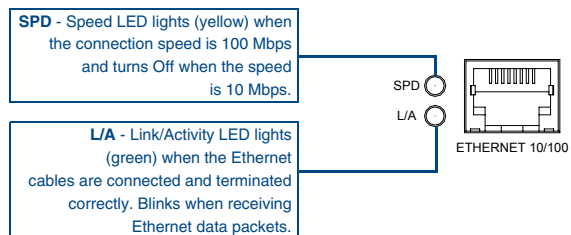

FIG. 2 Layout of Ethernet LEDs
Rear Panel Connectors:	<ul style="list-style-type: none"> <li>COMPOSITE OUT: Composite Video Output (NTSC or PAL) via a female BNC connector.</li> <li>12VDC PWR: Single 2-pin 3.5mm mini-Phoenix (male) captive-wire connector from an optional 12 VDC power supply (overrides POE).</li> <li>S-VIDEO OUT: Mini-Din4 port for composite S-Video output.</li> <li>ETHERNET 10/100: Single RJ-45 port provides 10/100 Mbps network communication and POE. LEDs show communication activity, connections, speeds, and mode information (FIG. 2).</li> <li>AUDIO R/L: Two RCA connectors (Red and White) support line-level stereo output for analog stereo signals.</li> <li>IR/Serial: Single 2-pin 3.5mm mini-Phoenix (male) captive-wire connector is used for IR/Serial control output by generating IR with the use of an IR emitter (while in IR mode). This port can support high-frequency carriers of up to 1.142 MHz and can also generate IR with no carrier frequency.</li> </ul>
The MAX-CSD10 uses a standard CAT5 Ethernet cable to provide 10/100 network connectivity between the encoder and the network (FIG. 2).
- If the L/A LED (FIG. 2) is not On or blinking, check your cables and connectors.